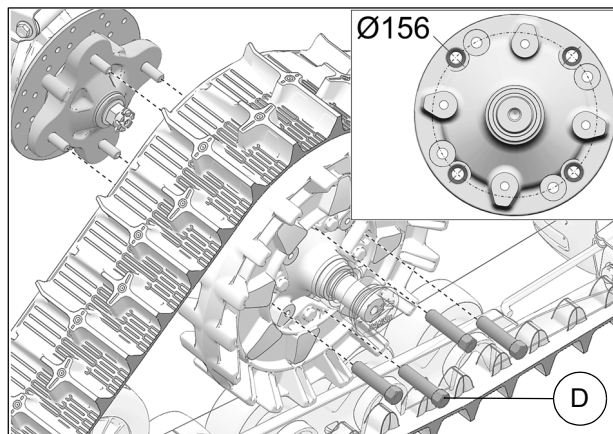

Fig. 20
8. Secure undercarriage to rear hub using the provided M12 lug nuts (**D**). Use bolt circle $\varnothing 156$ mm. See Fig. 20